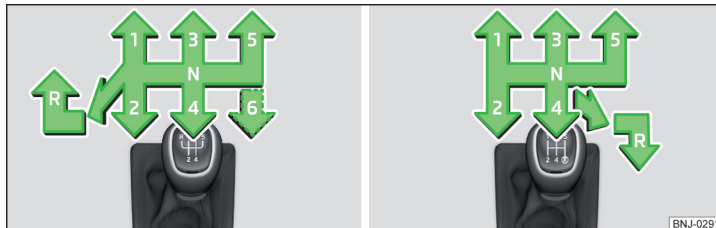

Fig. 197 The shift pattern: Variant 1 (5-speed or 6-speed manual gearbox) / variant 2 (5-speed gearbox with the 1.0 litre MPI engine)
On the gear lever, the shift pattern for the individual gear positions is shown » Fig. 197.
- Push the shift lever downwards fully to the left and then forward into **R** » Fig. 197.